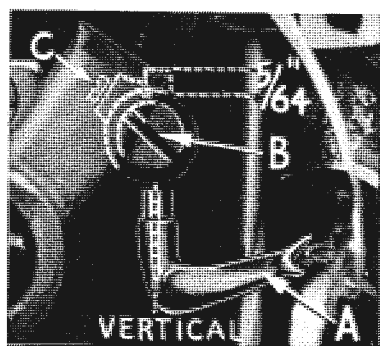

Fig. 8
Insert spreader (A, Fig. 8) in its holder. Screw (B) holds the spreader in its holder and permits spreader to be pushed in or out, or turned around its shank. Screw (C) on the collar holds spreader holder in the shaft, and allows the holder to be rotated or adjusted laterally.
Preliminary Setting: When spreader is at the right end of its stroke, spreader holder should be set to position the spreader shank about vertical (Fig. 8). The top end of the spreader shank should extend approximately $5/64$ inch above holder (Fig. 8).